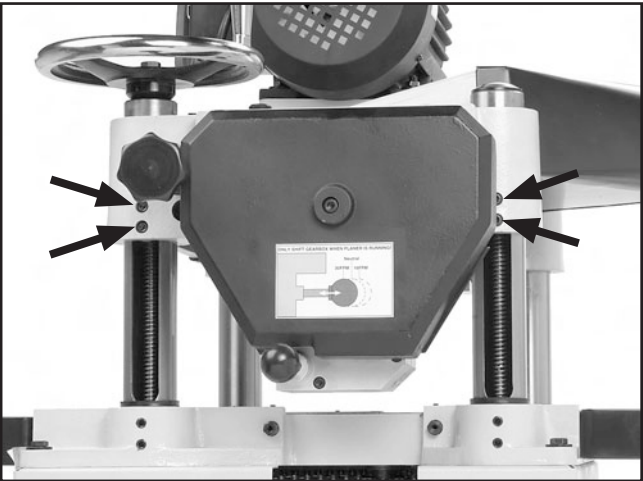

Figure 35. Table micro-adjustment screws, right side.
14. Micro-adjust the headstock position by loosening the cap screws shown in **Figure 35** & **36** and lifting the table upward or downward until the table and cutterhead are in alignment.